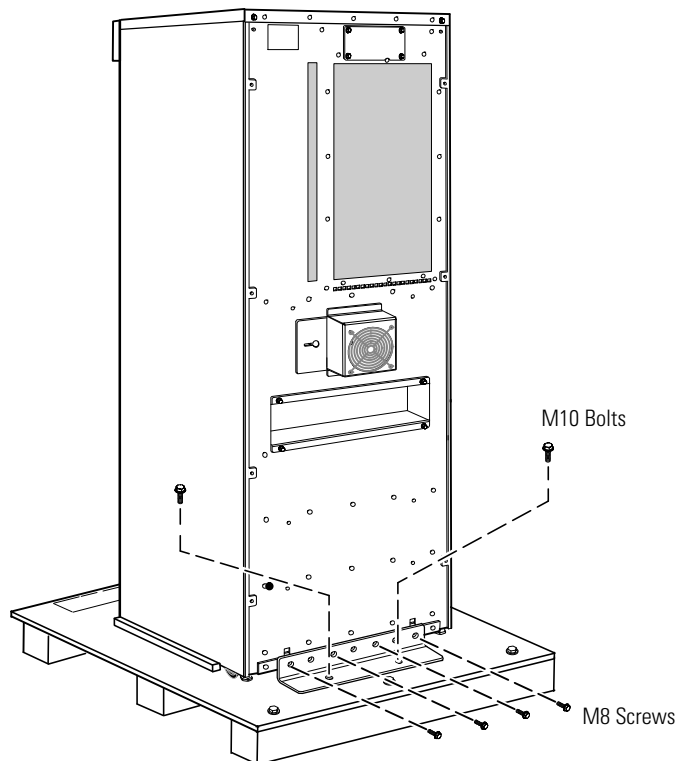

Figure 4. Removing the Rear Shipping Bracket (UPS Shown)
1. Remove the two M10 bolts securing the rear shipping bracket to the pallet (see Figure 4).